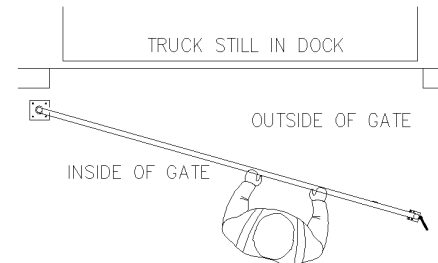

Figure 8
4. Grab top rail of the Loading Dock Rolling Safety Gate and roll away from the dock door to clear dock door opening for safe loading/unloading of the truck see figure 8.
5. After loading/unloading of truck, prior to truck leaving the dock, Grab the top rail of the Loading Dock Rolling Safety Gate roll back into the closed position as illustrated in figure 8 always behind the gate.
6. Grab the gate pin rotate 135 degrees clockwise to align gate pin with gate pin guide in tube slot see figure 8.